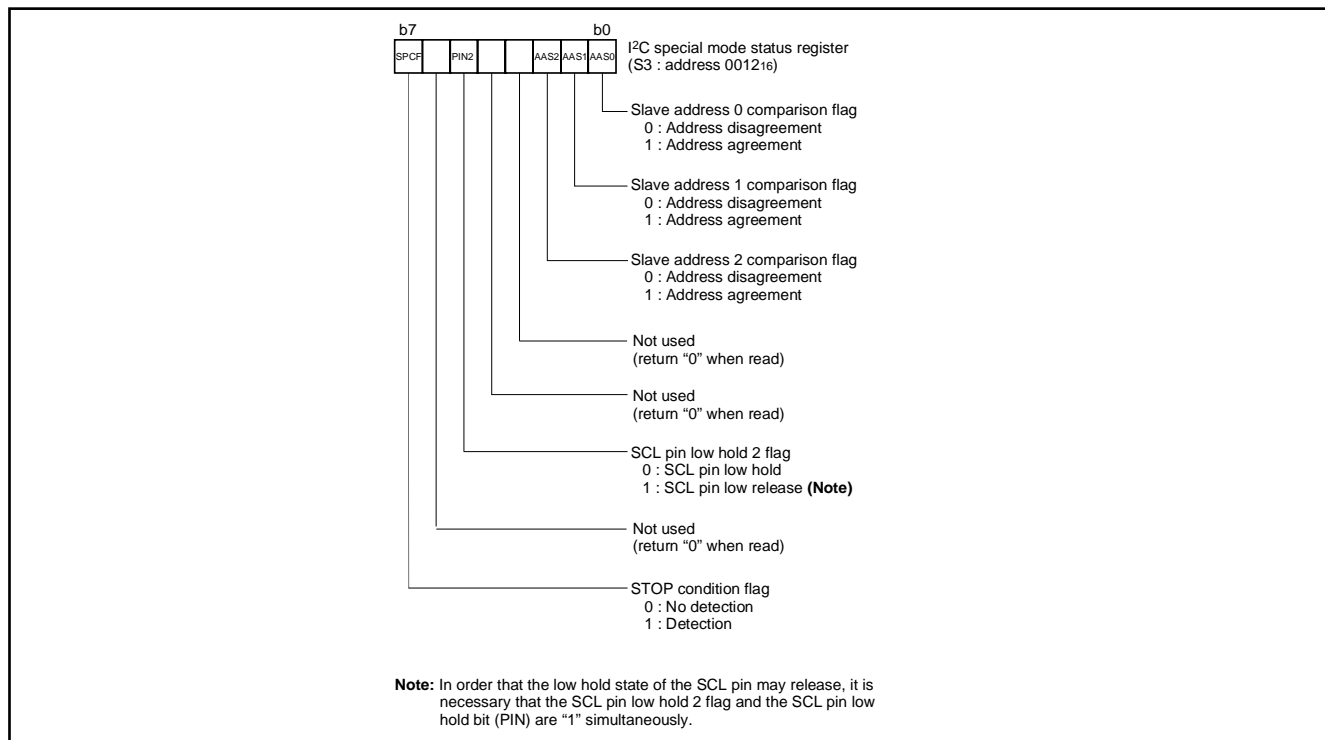

Fig. 75 Structure of I2C special mode status register
① 7-bit addressing format
To adapt the 7-bit addressing format, set the 10BIT SAD bit of the I2C control register (S1D: address 001416) to "0". The first 7-bit address data transmitted from the master is compared with the high-order 7-bit slave address stored in the I2C slave address register. At the time of this comparison, address comparison of the RWB bit of the I2C slave address register is not performed. For the data transmission format when the 7-bit addressing format is selected, refer to Figure 75, (1) and (2).
② 10-bit addressing format